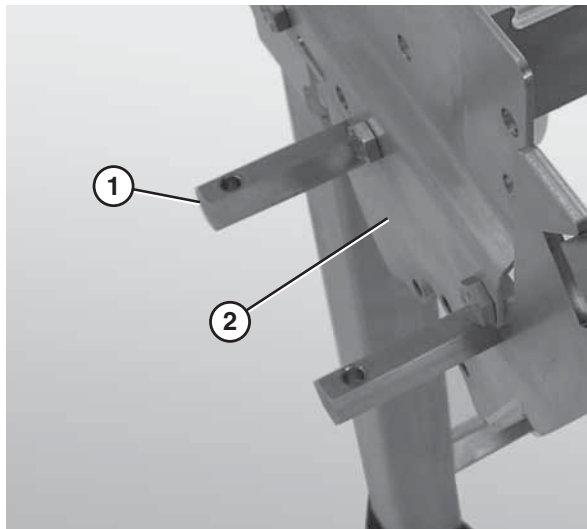

Figure 20
1. Attach the gear reducer mounting posts (Figure 20, item 1) to the nose bar side plate (Figure 20, item 2).